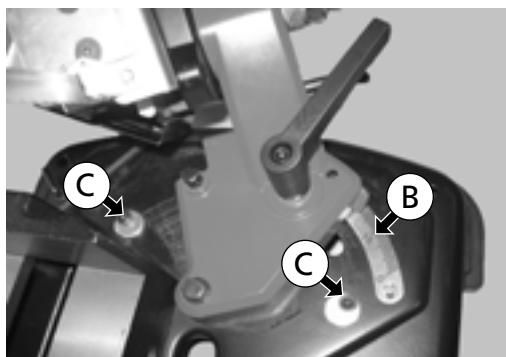

Fig. 20
Rotate the band saw arch to the desired angle on the scale (B) - (Fig. 20). Adjustable stops (C) for 90° and 45° enable a quick set-up (Fig. 20).